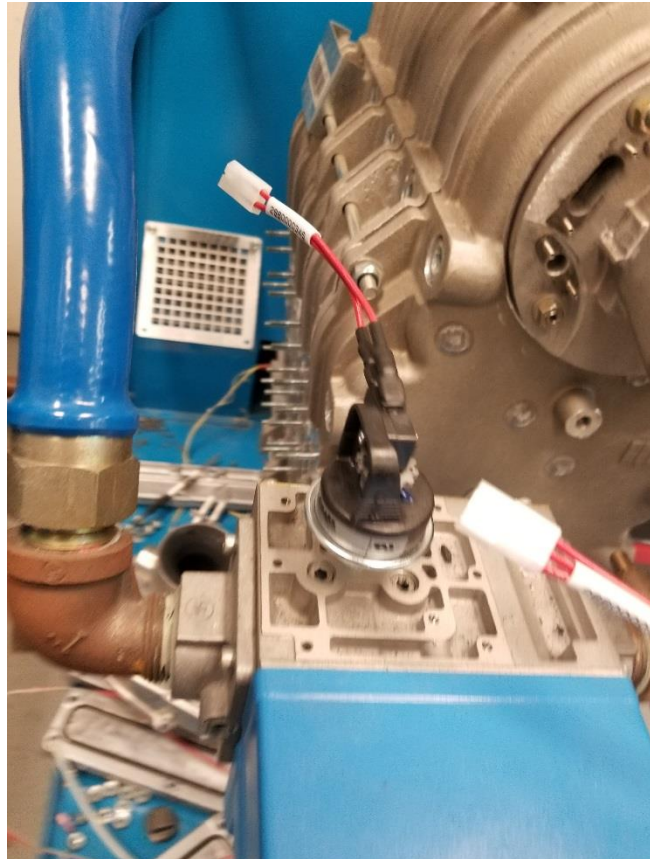

Figure 11
11. Install new low gas pressure switch in new gas valve supplied with kit. Location shown in figure 11.